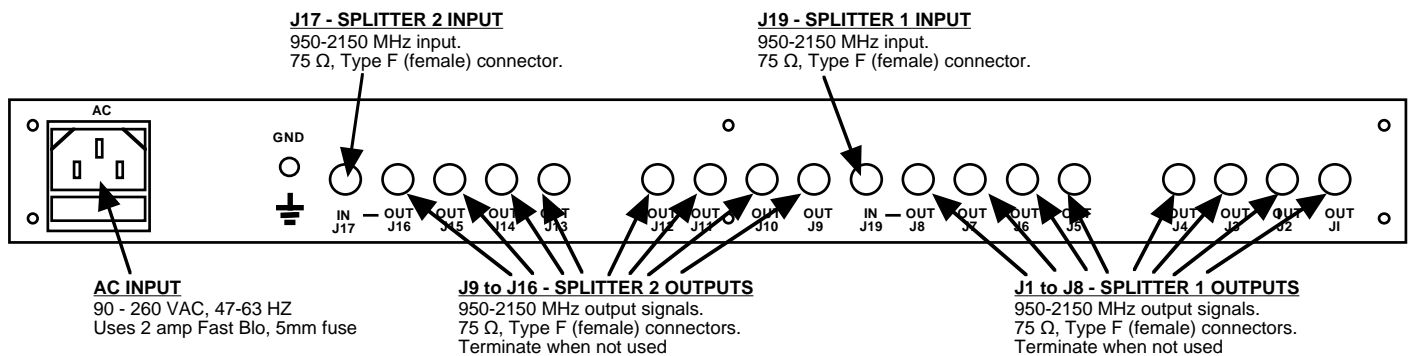

FIGURE 2.1 1584-29S Rear Panel
The 1584-29S consists of one RF printed circuit board (PCB) housed in a 1 RU (1 3/4 inch high) by 12 inch deep chassis. One +24 VDC power supply provides power for the internal amplifiers and LED. Connectors are type F, female for the RF connections. The 1584-29S can be secured to a rack using the 4 holes on the front panel. Figure 2.1.shows how the 1584-29S is assembled. J29 connects the DC voltage from the power supply to the PCB as shown.
The input and output connectors on the rear panel are shown in Figure 2.1.
1. Connect RF cables to the 1584-29S (Figure 2.1).